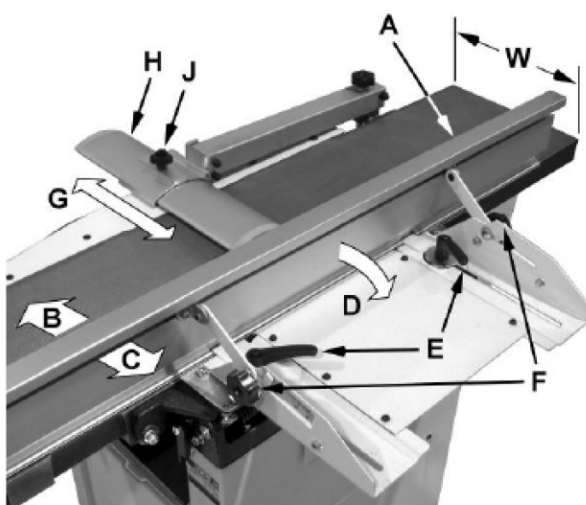

Fig. 10: Thicknesser
Properly positioned, the cutter head guard (Pos. H, Fig. 10) should rest against the fence (Pos. A, Fig. 10).
The fence (Pos. A, Fig. 10) can be moved forward (Pos. B, Fig. 10) or backward (Pos. C, Fig. 10) across the width (Pos. W, Fig. 10) of the table. It also tilts up to 45 degrees backwards (Pos. D, Fig. 10).
Step 1: Loosen the lock knob (Pos. J, Fig. 10), slide the guard into position, then tighten the lock knob.
Step 2.1: If necessary, loosen the cutter head guard (Pos. H, Fig. 10) to permit the fence assembly to move freely without being constrained by the guard.
Step 2.2: Loosen two fence assembly locking handles (Pos. E, Fig. 10).
Step 2.3: Move the entire fence assembly to the desired position; then re-tighten the handles (Pos. E, Fig. 10).
Step 2.5: The fence (Pos. A, Fig. 10) can be tilted backward (Pos. D, Fig. 10) up to 45° (that is, for a total included angle of 135° from table surface) as follows:
- a) Loosen locking handles (Pos. F, Fig. 10).
- b) Tilt the fence back (Pos. A & Pos. C, Fig. 10) to the desired angle up to 135 degrees.
- c) Tighten the locking handles (Pos. F, Fig. 10).